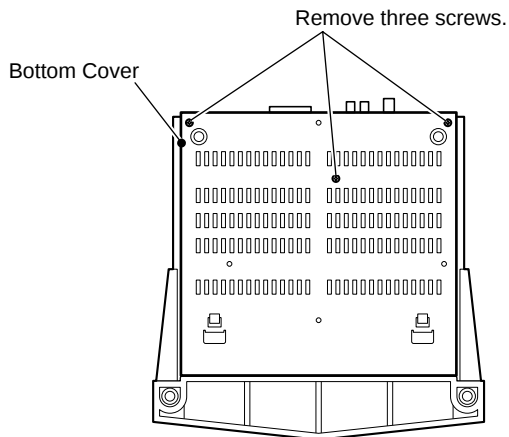

Fig. 1
- Referring to Fig. 1, remove three screws that secure the Bottom Cover, and remove the Bottom Cover.